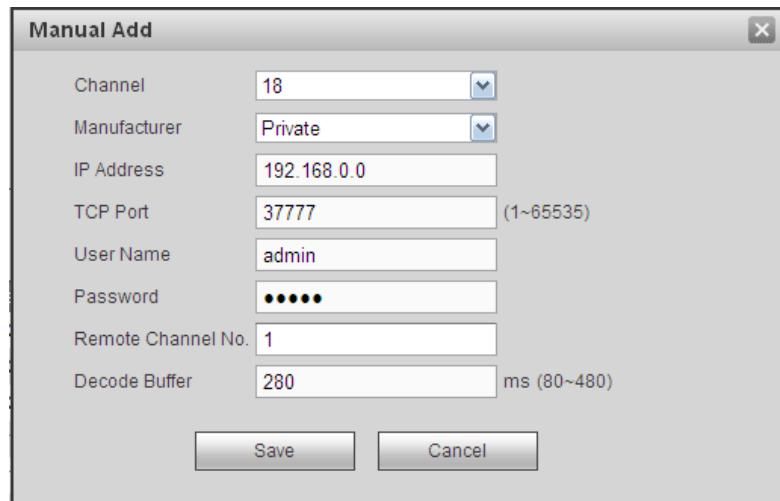

Figure 5-28
Step 1 Click Manual add to register the camera manually. There are three modes: TCP/UDP/Auto. The default setup is TCP. See Figure 5-28.